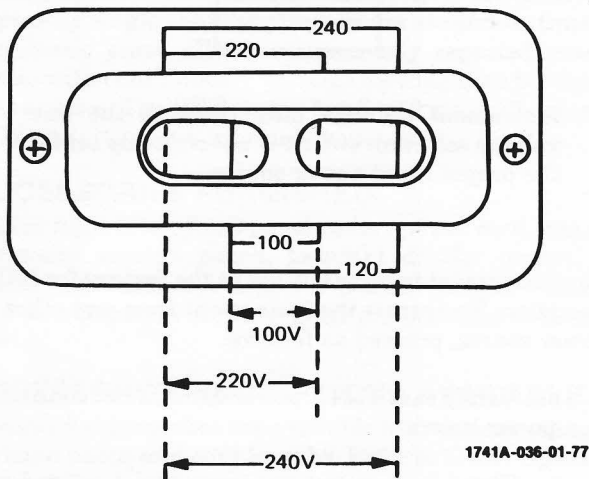

Figure 2. Line Voltage Selection Switch Settings
- b. Stand instrument on rear-panel legs and use blade-type screwdriver to position power selector switches through opening in bottom cover (figure 2 shows switches set for 120 V operation).